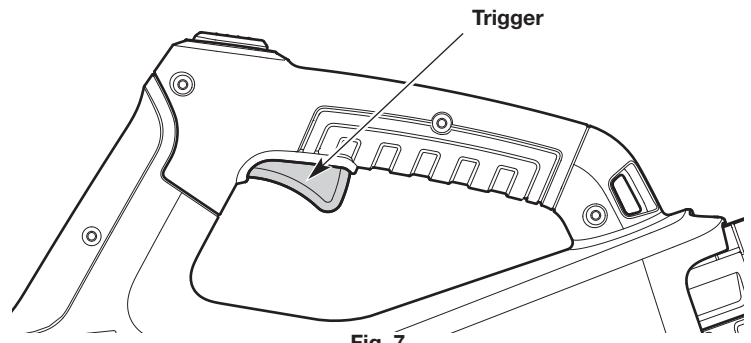

Fig. 7
2. Squeeze and hold the trigger to start the unit (Fig. 7).
1. Release the trigger (Fig. 7).